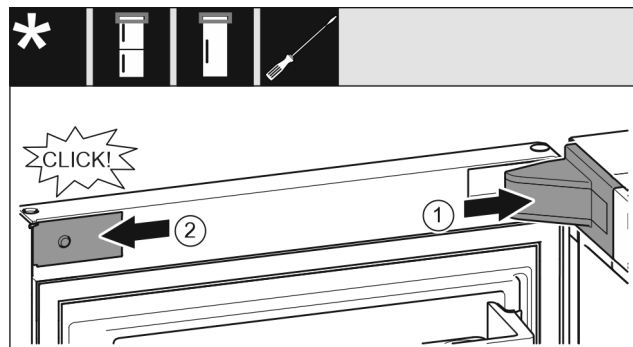

Fig. 33
- ▶ Position the bearing bracket and latch it in place. If necessary push it apart carefully. Fig. 33 (1)
- ▶ Position the panel on the side and latch into place. Fig. 33 (2)